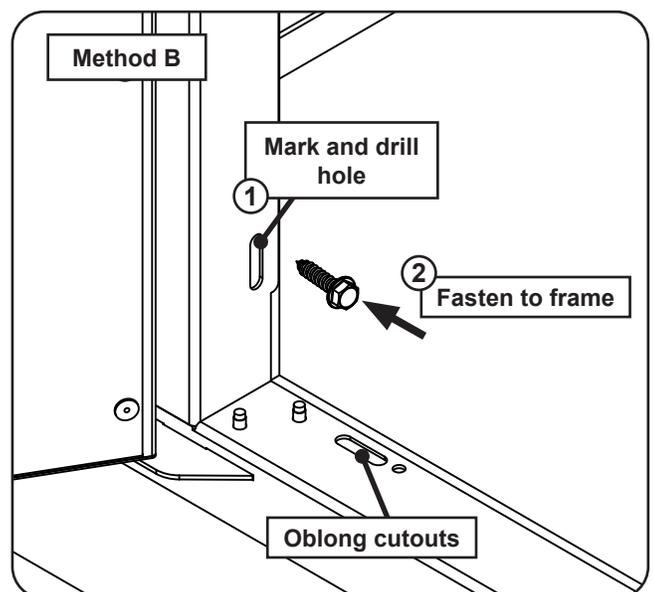

Fig. 3-3 Method B install detail
2. Drill pilot holes for each screw. See Fig. 3-3, step 1. It is recommended to use a #21 drill bit (0.159") to drill pilot holes.
4. Insert a long hex screw and tighten with the power drill and $\frac{5}{16}$ " hex driver (see Fig. 3-3, step 2). **DO NOT OVERTIGHTEN.**